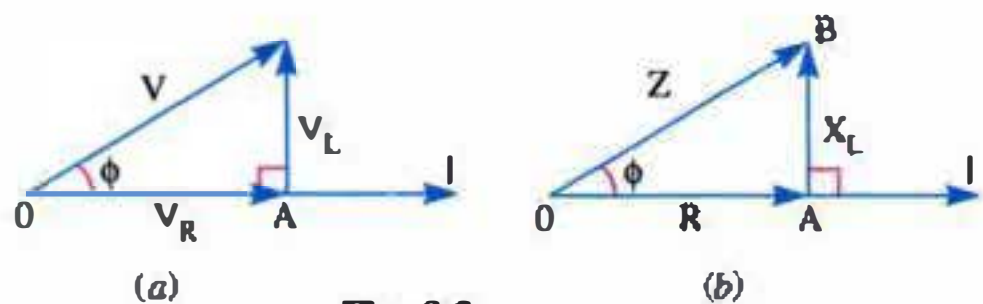

Fig. 9.2
These facts have been shown in the phasor diagram of Fig. 9.2 (a) which is called voltage triangle. Here
Since in a series combination, same current flows through the two components, it has been taken as the reference quantity. That is why current vector has been taken along the horizontal or reference axis. As seen from Fig. 9.2 (a).
The quantity $(R^2 + X_L^2)^{1/2}$ is called *impedance* (Z) of the circuit and is shown separately in Fig. 9.2 (b). Obviously, Z is the vector sum of R and X_L as shown in the impedance triangle of Fig. 9.2 (b).